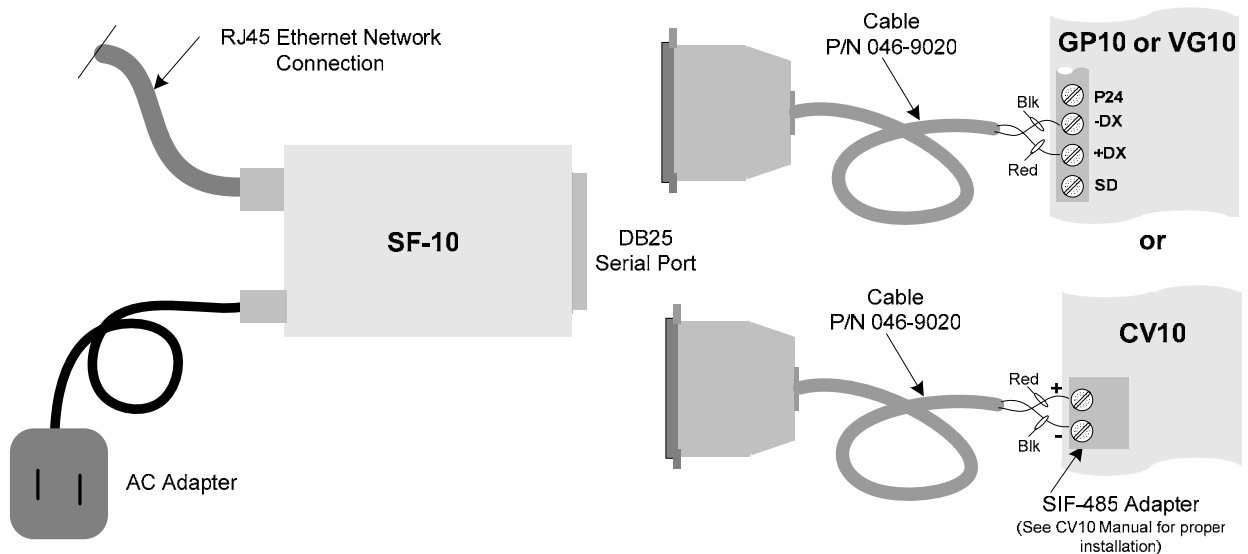

Fig. 7 Inverter Connections
- 1 – Power down the inverter and make the connections to the serial port as shown in Fig. 7